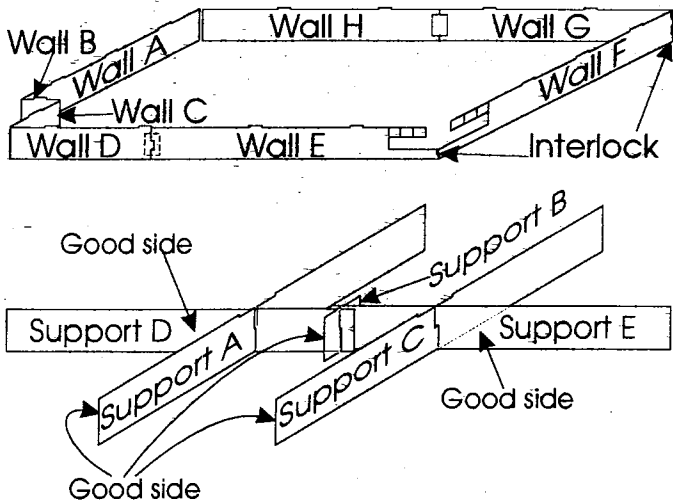

Figure 7
4. Assemble Base Floor Walls and Base Floor Supports as in Fig. 7. Glue and tape Base Floor Walls to Base Floor Assembly.